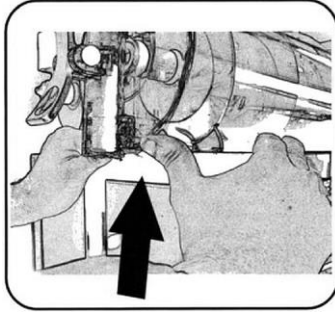

Fig. 19
3. To make it easier to remove the tank, follow the instructions in Figures 19 and 20.